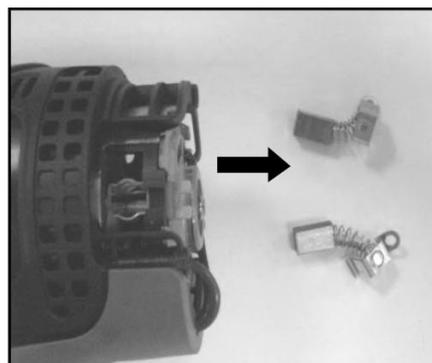

Fig.11
- Take out the carbon brush (Fig.11)